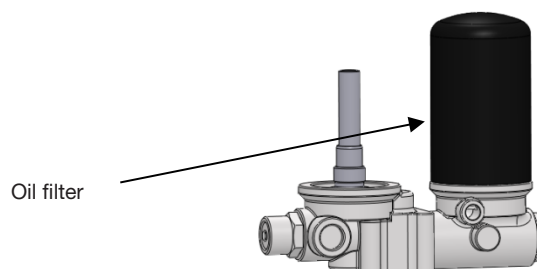

Figure 8
- j. Check, clean, and, if necessary, replace the oil circuit filter. See Figure 8